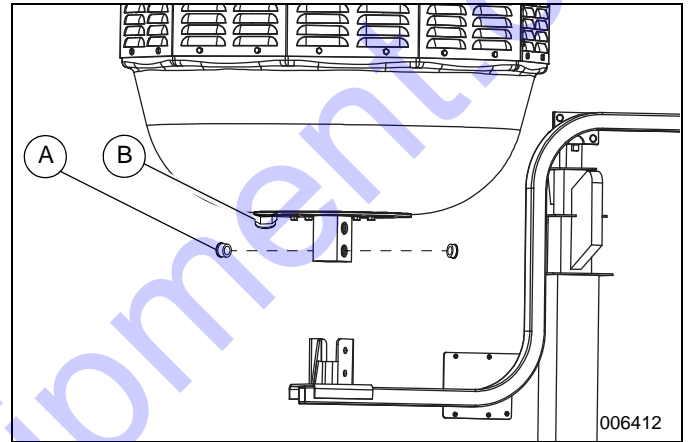

Figure 10. Bearing Installation; Proper Light Position
- See **Figure 10**. Install bearings (A) to light fixture. Arrange light fixture so strain relief (B) faces away from mast.
6. See Figure 10. Install bearings (A) to light fixture. Arrange light fixture so strain relief (B) faces away from mast.